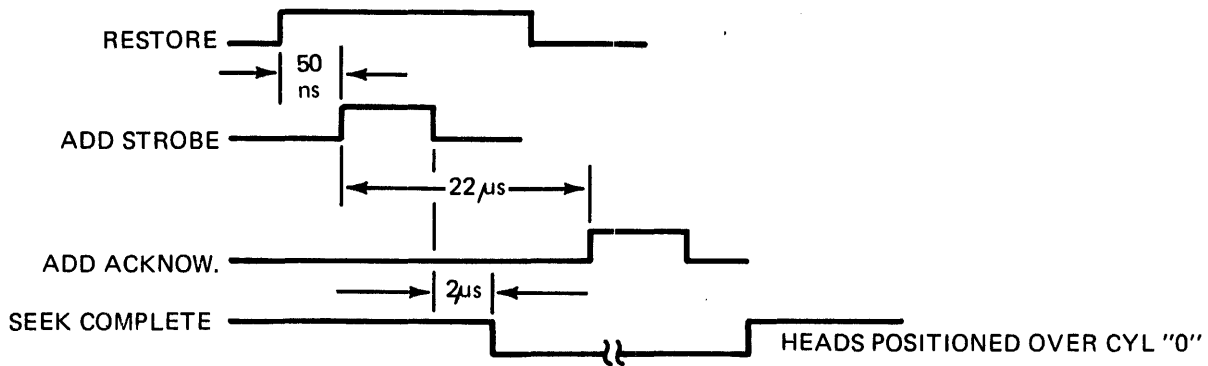

Figure 4-34. Restore Operation Timing Diagram
4.5.9.7 Restore Operation. When the CL RESTORE pulse enters the Control Interface Board (CIB), it is applied to a three-input AND gate. One of the other inputs is the output of the Ready flip-flop, so the Disc Drive must be Ready to implement commands from the Controller before this gate is enabled. The third input is comprised of many variable signals but must be high at this time. The leading edge of the positive-going pulse at the output of this gate fires the 2-millisecond RTZ one-shot. The low-high output of the one-shot then is transmitted to the DCB on the RETURN ZERO line. A timing diagram of the Restore operation is shown in Figure 4-34.